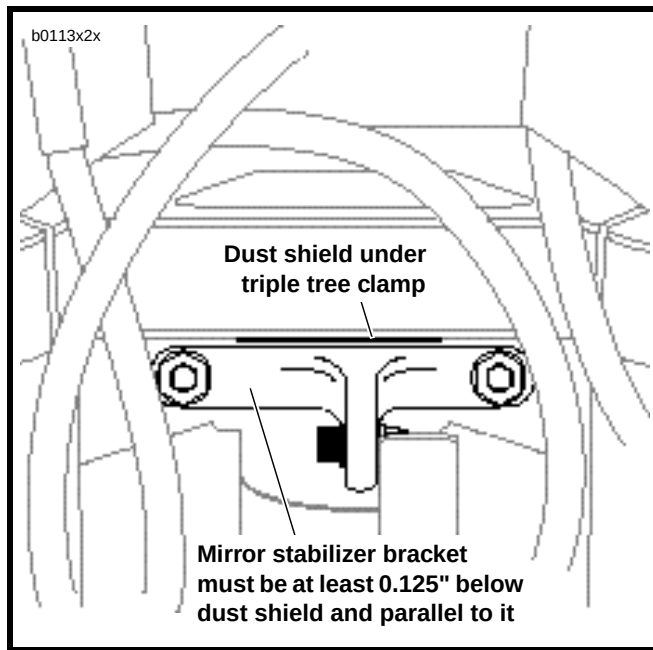

Figure 4. Checking Installation
11. See Figure 4. Check distance between top of mirror stabilizer bracket and dust shield below upper triple tree clamp. Bracket and dust shield must be parallel and have a gap of at least 0.125".
13. See Figure 4. Check distance between top of mirror stabilizer bracket and dust shield below upper triple tree clamp. Bracket and dust shield must be parallel and have a gap of at least 0.125".